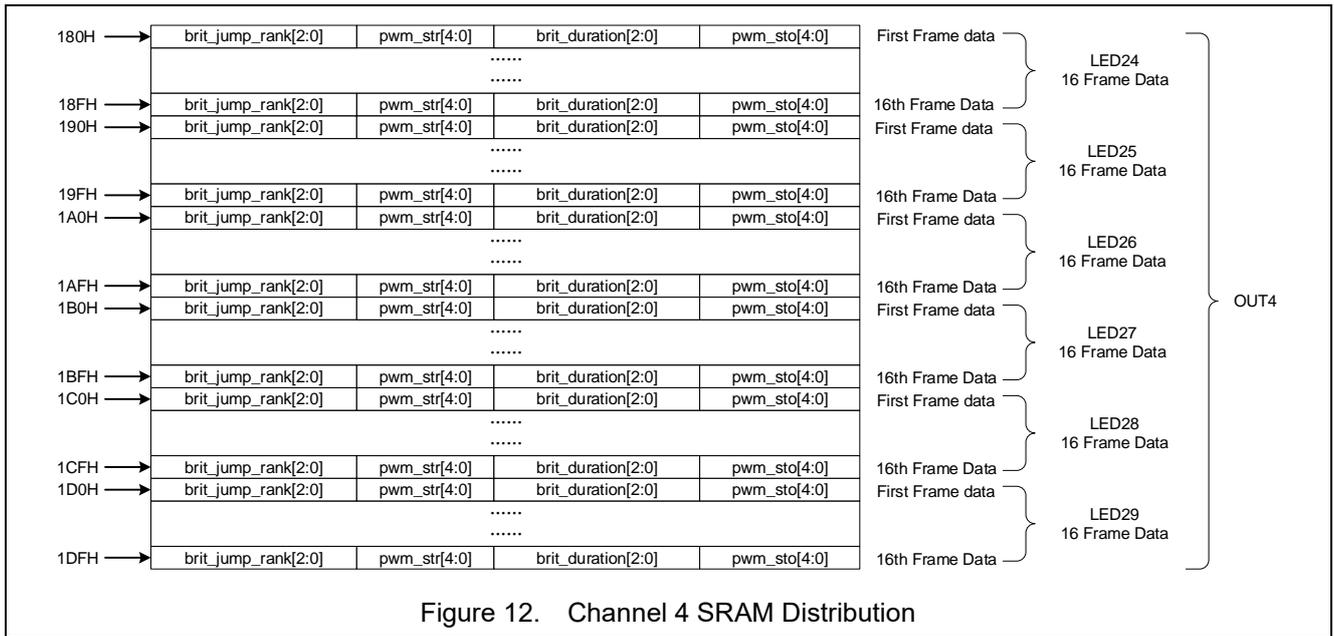

Figure 12. Channel 4 SRAM Distribution
2. Each LED lights have 16 frame data, corresponding to the address on the left side of the figure 12, such as LED24 16 frame corresponding to the light address is 180H to 18FH, similar to other lights.